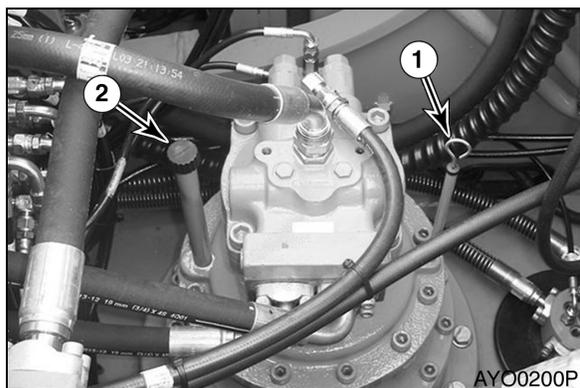

Figure 68
4. Remove breather/fill cap (2, Figure 68) and add oil to "H" mark on dipstick (1, Figure 68)